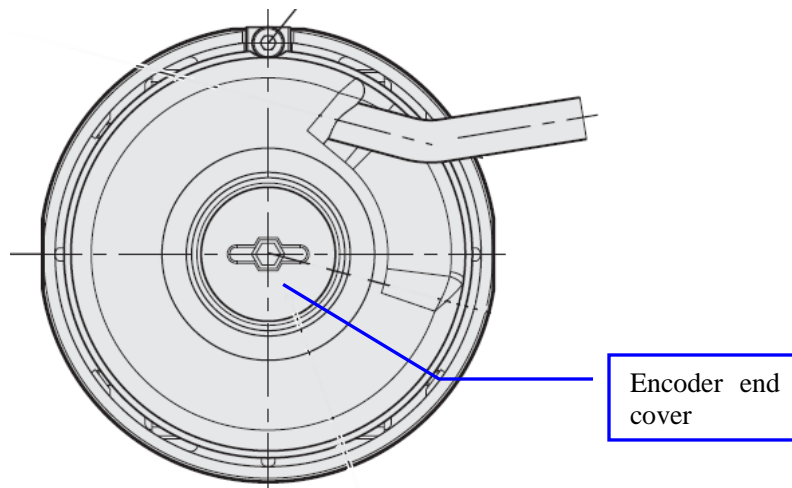

Figure 17: Remove Encoder end cover
2. Remove the encoder end cover by hex wrench (4mm). See Figure 17.